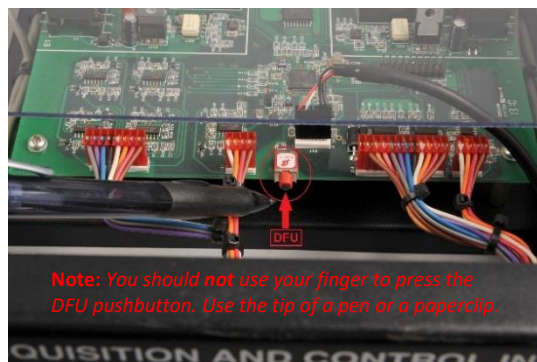
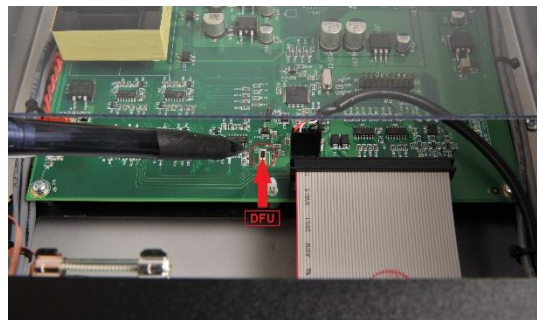

Figure 1a: Data Acquisition and Control Interface – DFU pushbutton switch S1 for REV 1
Figure 1b: Data Acquisition and Control Interface – DFU pushbutton switch S1 for REV 2
- a. Press and hold down the DFU pushbutton S1 (see Figure 1a, Figure 1b or Figure 1c on next page depending on which board revision you have), then connect the 24VAC power supply on a power input of the Data Acquisition and Control Interface. Release the DFU pushbutton.